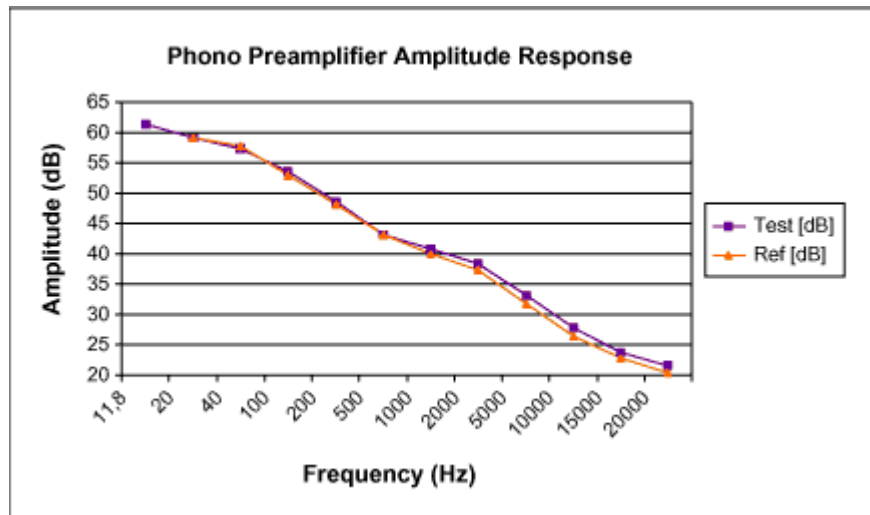

Figure 3. Frequency response vs. RIAA reference.
As can be seen from Table 1 or Figure 3, the accuracy is about 1dB. This might be increased if a more accurate capacitor for the high-frequency filtering is used. The gain at 1kHz is about 40dB (100) so a nominal 5mV cartridge output will give 500mV output. This may be increased if necessary, by increasing the value of the 100k resistor in the second stage.